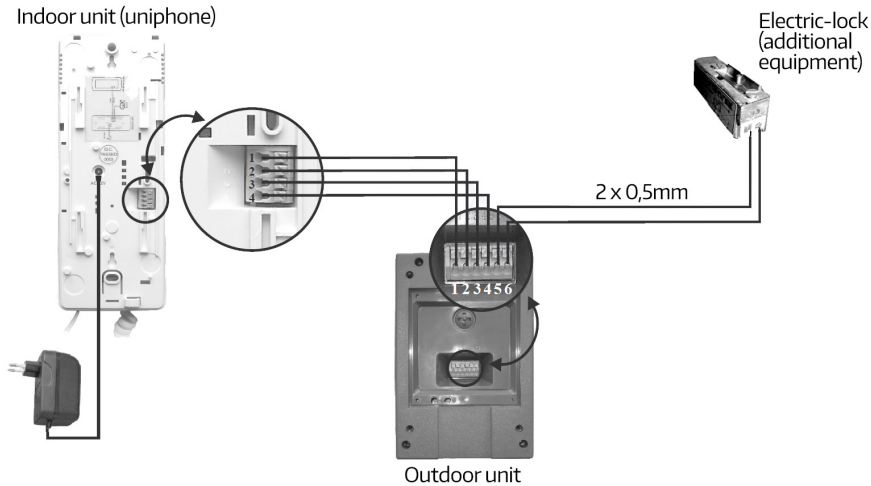

fig. 9.
6. Connect the cable correctly as showed in fig. 9.
6. Connect the cable correctly as showed in fig. 9, using the hole in the mounting box.
2. Connect the system wiring according to the graph presented in fig. 9.
Fig. 9 shows the wiring diagram of: outdoor unit, indoor unit, electric-lock and power supply.